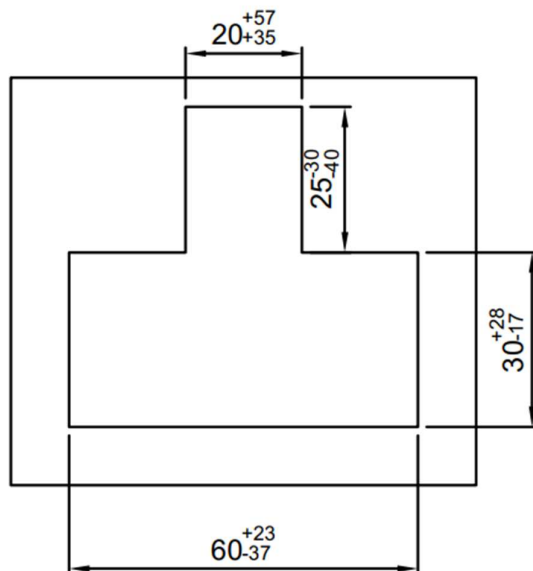

Figure Q3(c)
- c) In the quality assurance section of a mass component production factory, a product with a hole that accommodates a shaft of specified dimensions as shown in figure Q3(c) is to be tested for dimensional accuracy. Using Taylor's Principle, design the gauges that will be used to inspect the hole to ascertain whether the dimensions lie within the allowed limits.